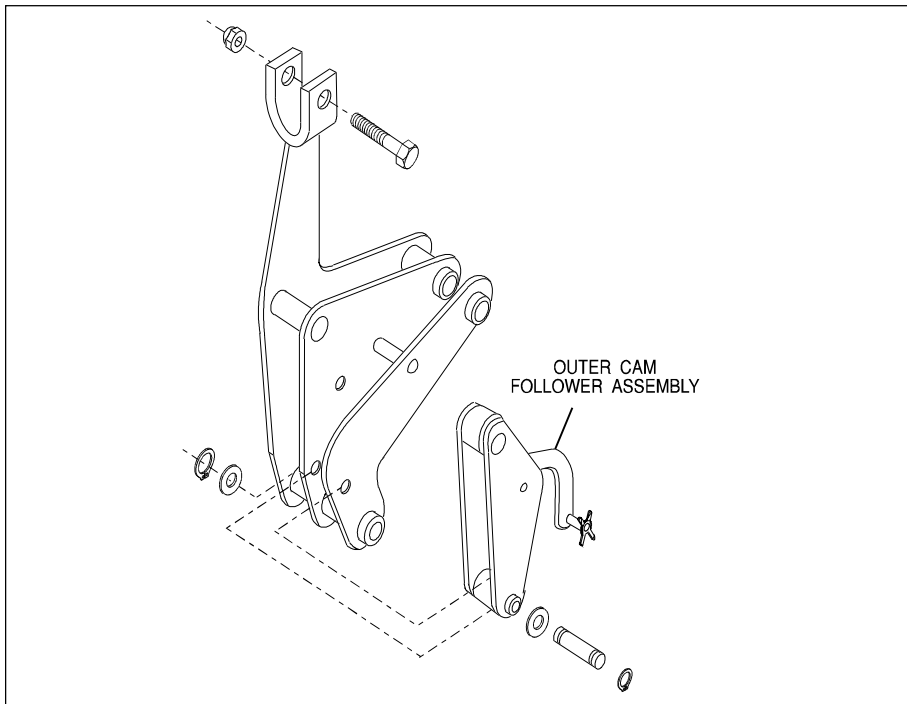

Figure 16. Outer Cam Follower Modifications
4. Remove the outer cam follower assembly (part no. 12-250242-000) from the rake cam follower assembly (part no. 12-250235-000). Discard the outer cam follower and hardware shown in Figures 16 and 17.